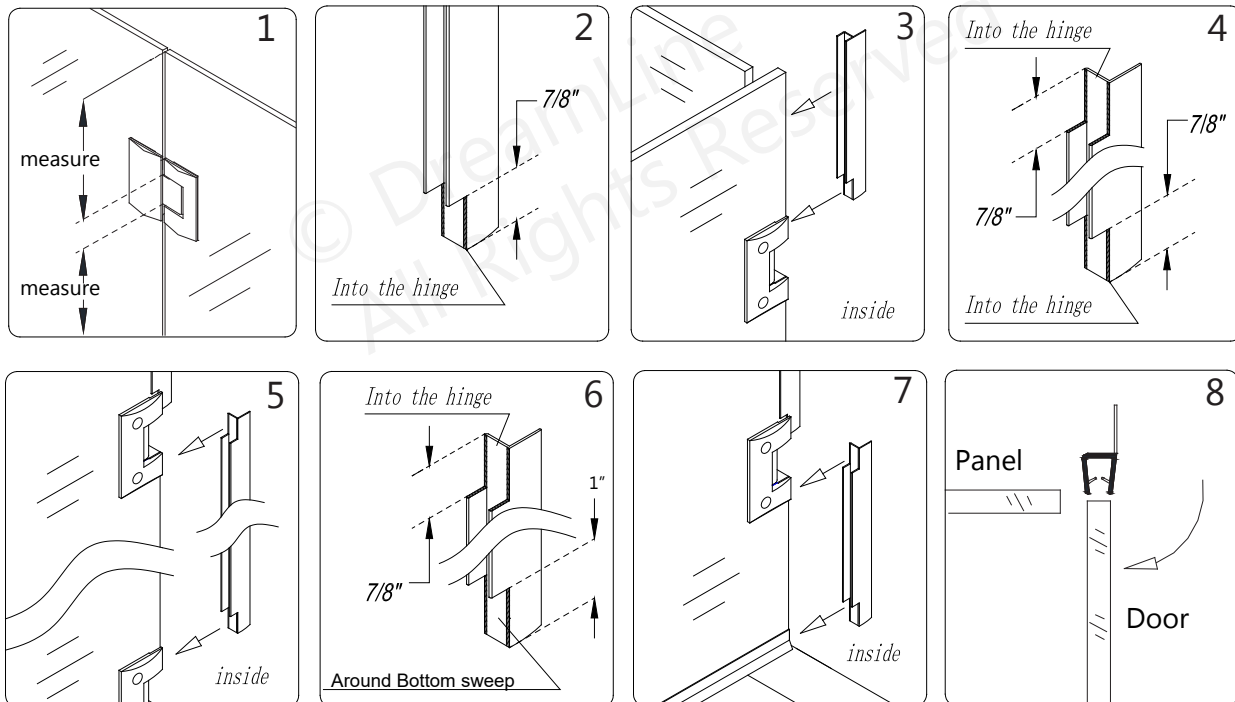

**Fig 22**
**NOTE:** Make sure the **Bottom Sweep Vinyl (#07)** is flush to the vertical edge of the handle side of the **Door Glass (#01)**. (**Fig 22**)